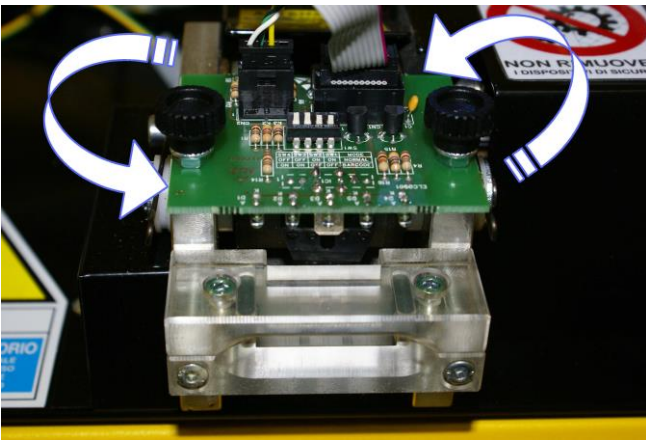

Figure 1
- Remove the sensor board, unscrewing the fixing knobs (Fig.1).